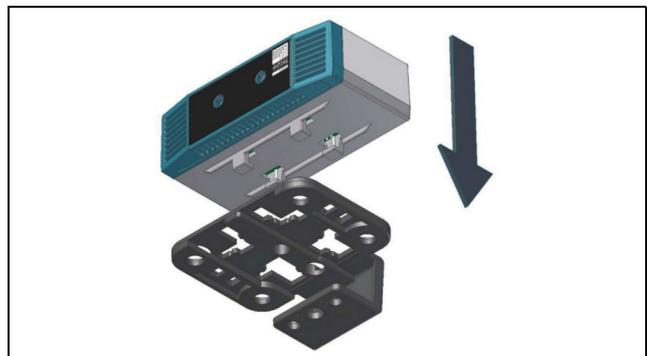
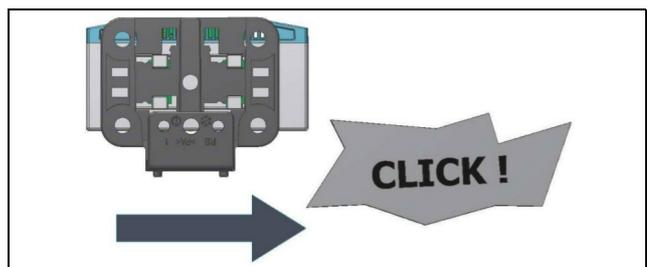

Fig. 2: Attaching the sensor to the bracket
Fig. 3: Latching the sensor into place on the bracket
- Then place the access sensor on the bracket (fig. 2) and latch it in place (fig. 3).